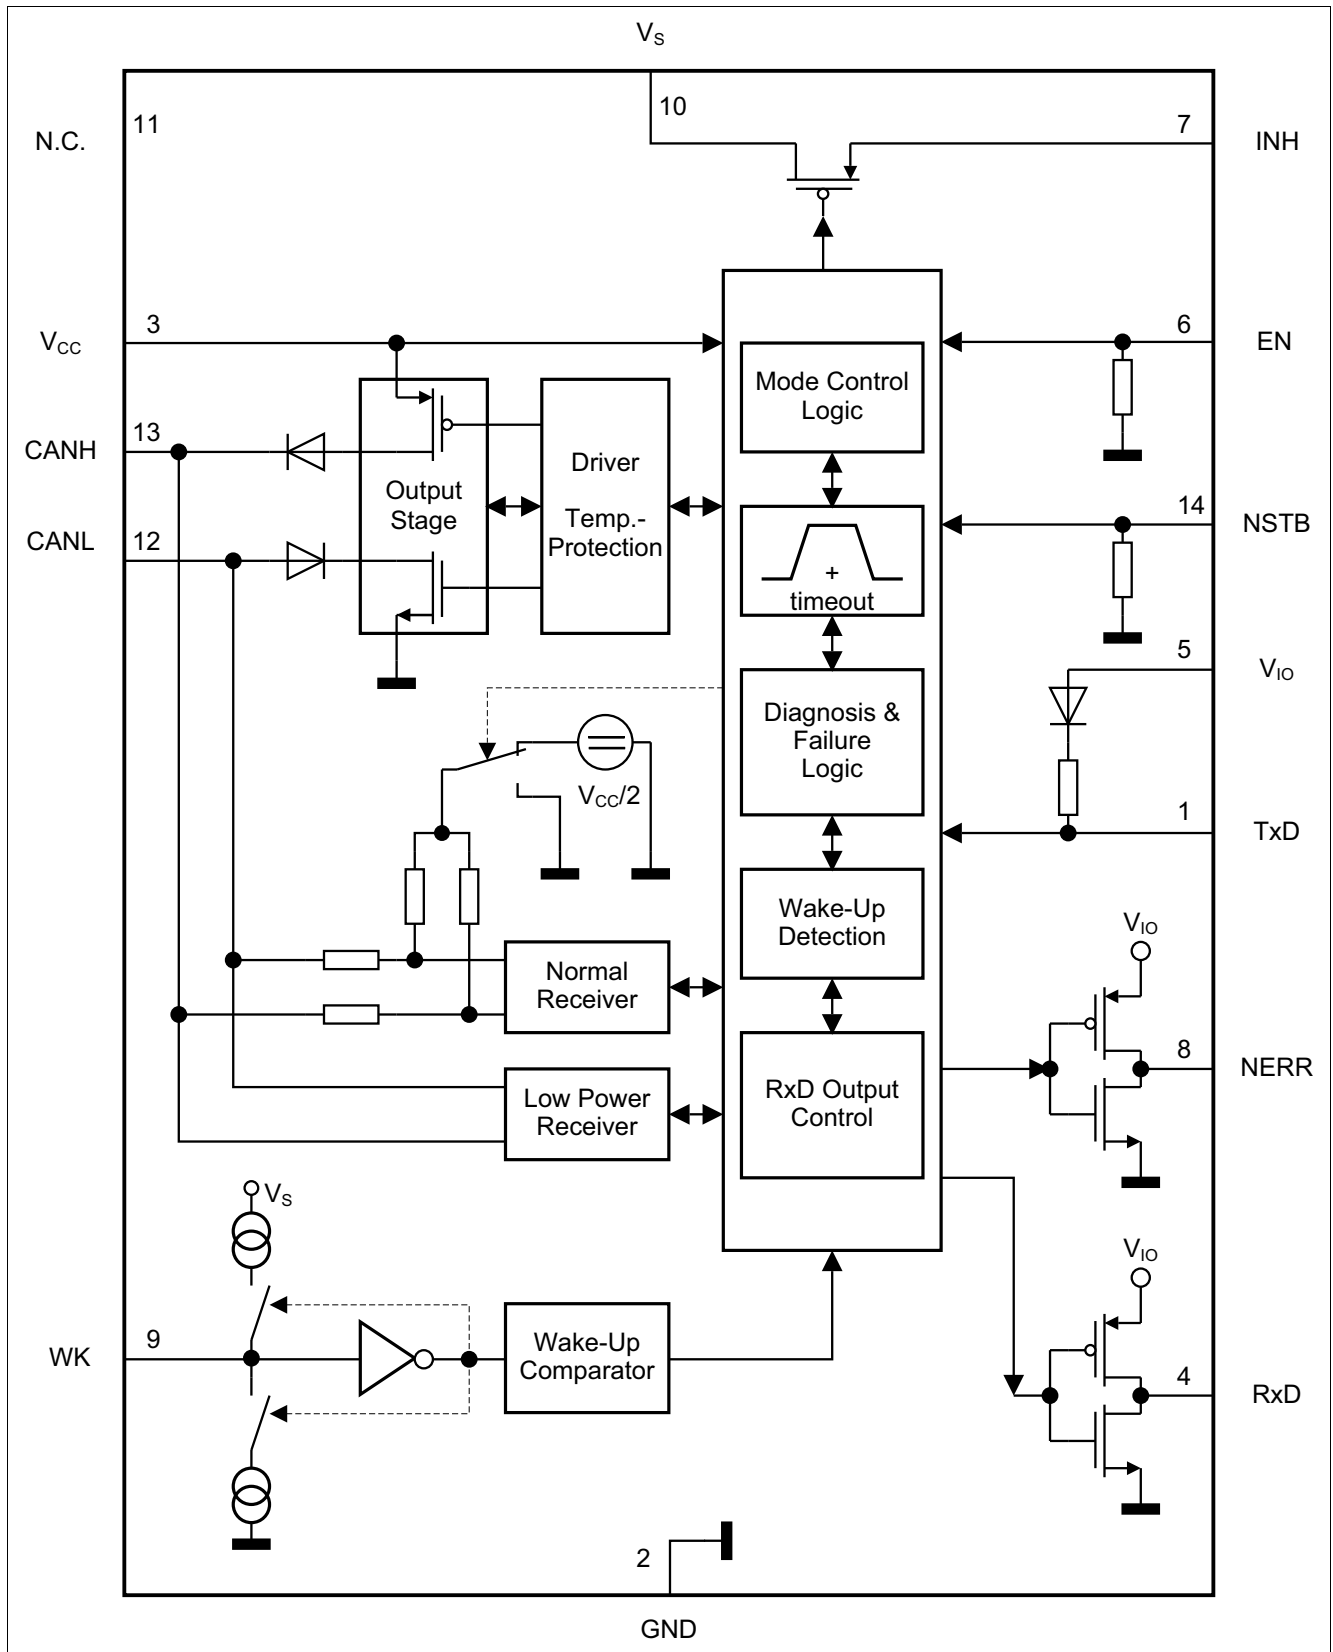
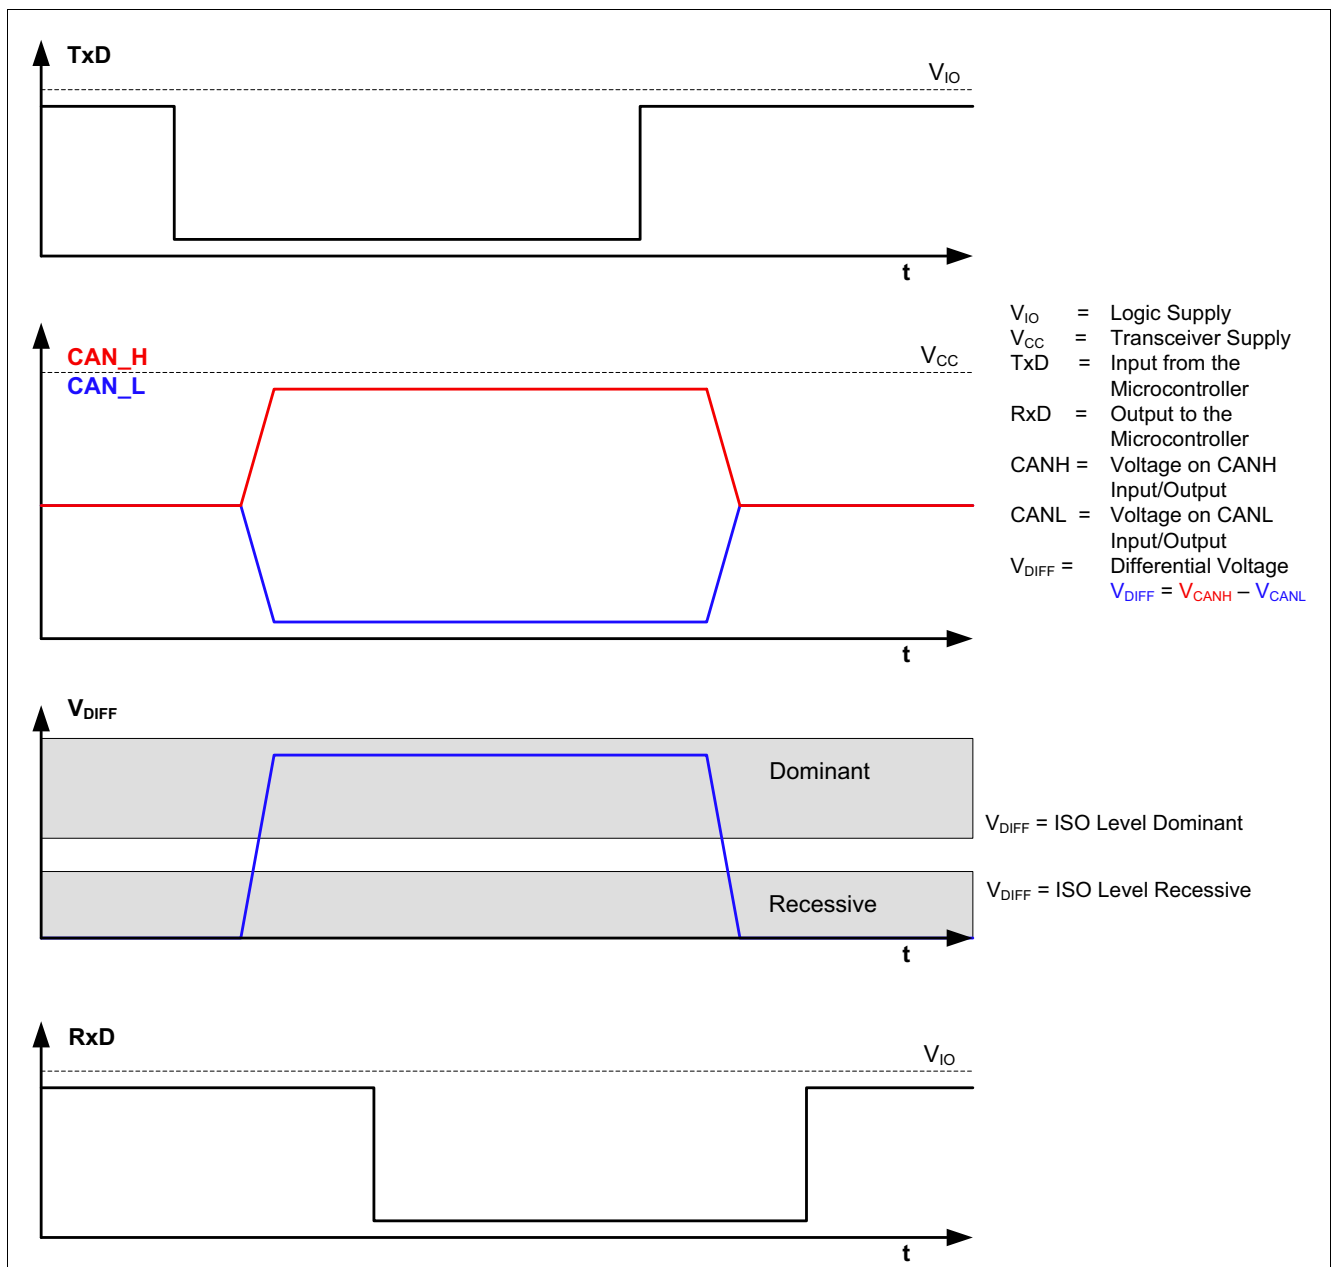

Figure 1 Block Diagram
Figure 3 High Speed CAN Bus Signals and Logic Signals
The TLE6251-3G is a High Speed CAN transceiver, operating as an interface between the CAN controller and the physical bus medium. A High Speed CAN network (abbreviated HS CAN) is a two wire differential network which allows data transmission rates up to 1 MBaud. Characteristic for a HS CAN network are the two CAN bus states dominant and recessive (see Figure 3).
The input TxD and the output RxD are connected to the microcontroller of the ECU. As shown in Figure 1, the HS CAN transceiver TLE6251-3G has a receive unit and a output stage, allowing the transceiver to send data to the bus medium and monitor the data from the bus medium at the same time. The HS CAN TLE6251-3G converts the serial data stream available on the transmit data input TxD into a differential output signal on CAN bus. The differential output signal is provided by the pins CANH and CANL. The receiver stage of the TLE6251-3G monitors the data on the CAN bus and converts them to a serial data stream on the RxD pin. A “low” signal on the TxD pin creates a dominant signal on the CAN bus, followed by a “low” signal on the RxD pin (see Figure 3). The feature, broadcasting data to the CAN bus and listening to the data traffic on the CAN bus simultaneously is essential to support the bit to bit arbitration on CAN networks.
- Through the internal resistors  $R_I$  (see Figure 1), the pins CANH and CANL are connected to GND.